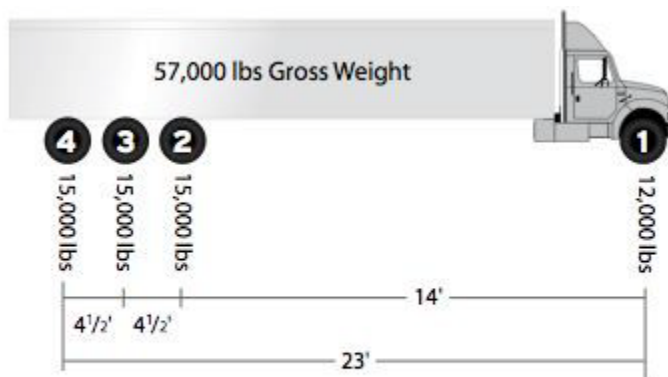

Figure 8
- This vehicle has all legal axle weights but is still in violation. Axles 2-4 (Group 2) a (tridem) has a 9-foot spread measured from center of axle to center of axle, and is weighing 45,000 lbs. in figure 8. If you use the bridge chart for a 3-axle group at a 9-foot spread the tridem can only weigh 42,500 lbs. The vehicle would be over bridge on axles 2-4 (Group 2) by 2,500 lbs.